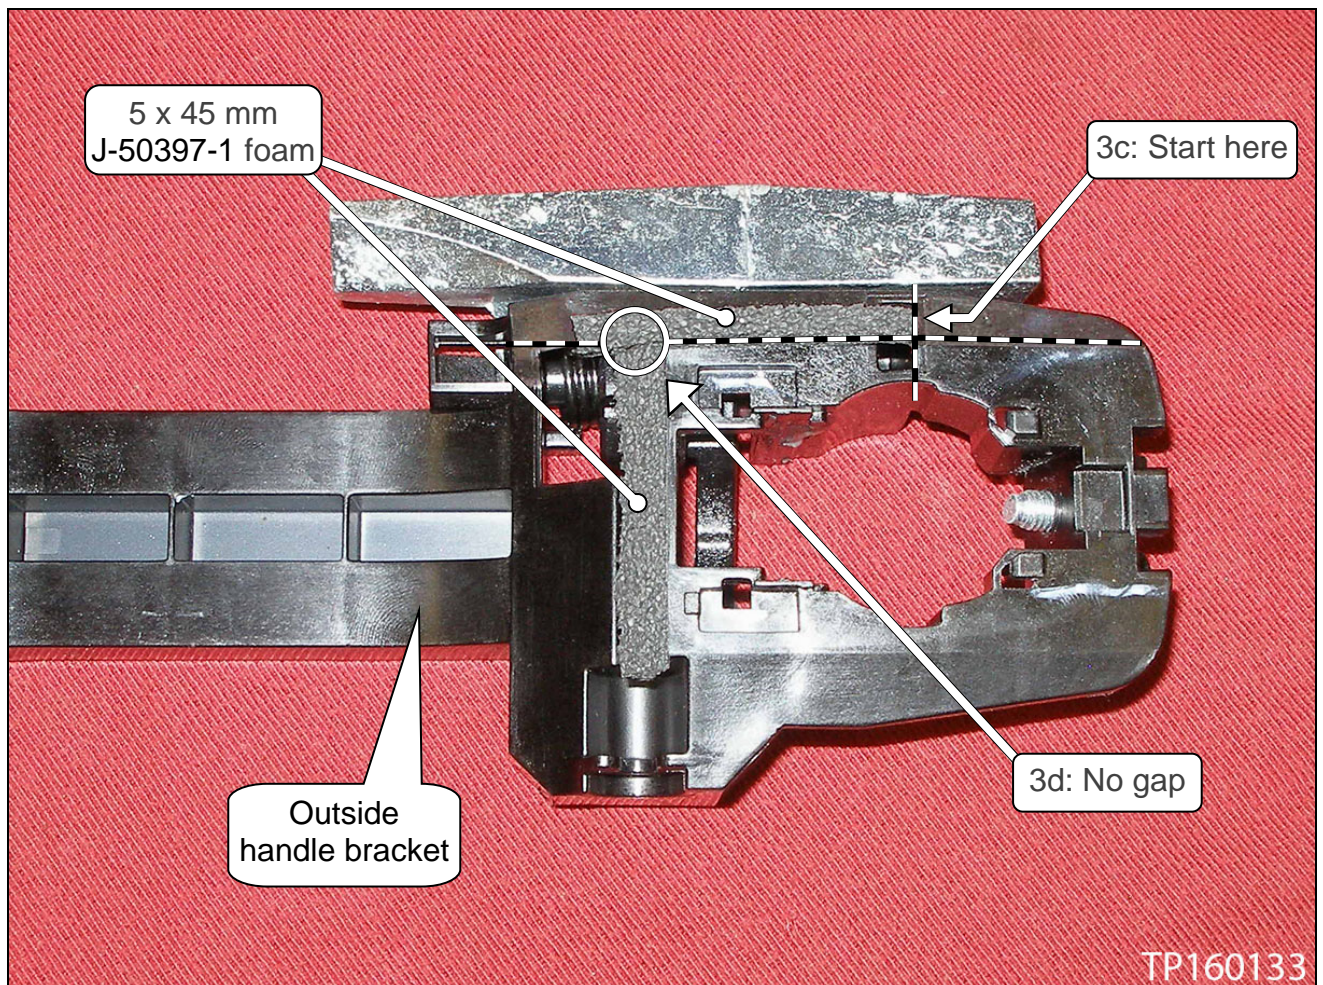

Figure 3
- c. Make sure the horizontal piece starts where shown in Figure 3.
- d. Apply the horizontal piece making sure there is no gap between both pieces of foam (see Figure 3).